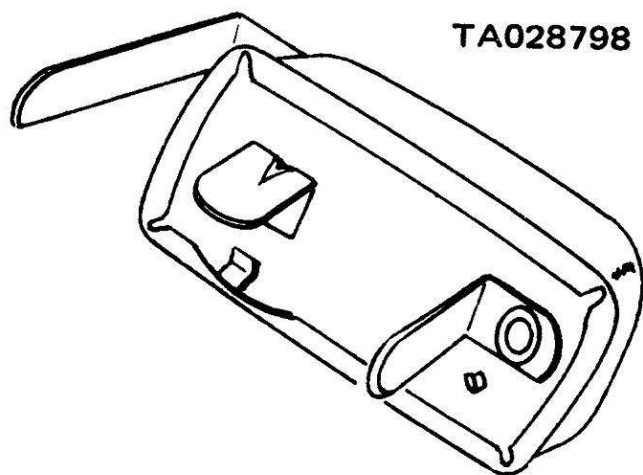

Figure 2-49. Voltage Limiter.
e. **Voltage Limiter Test.** The voltage limiter is a rectangular, metallic box mounted on the printed circuit board (figure 2-49). It limits power to the oil, temperature, and fuel gages, and to the brake-failure warning light. You can test it in the vehicle as follows: